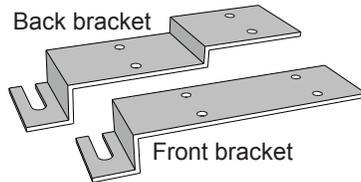

Fig 2
5. Attach the front and back brackets to both chairs. With bolt inserted fully into slot, as shown in figure 2, retighten bolts securely.